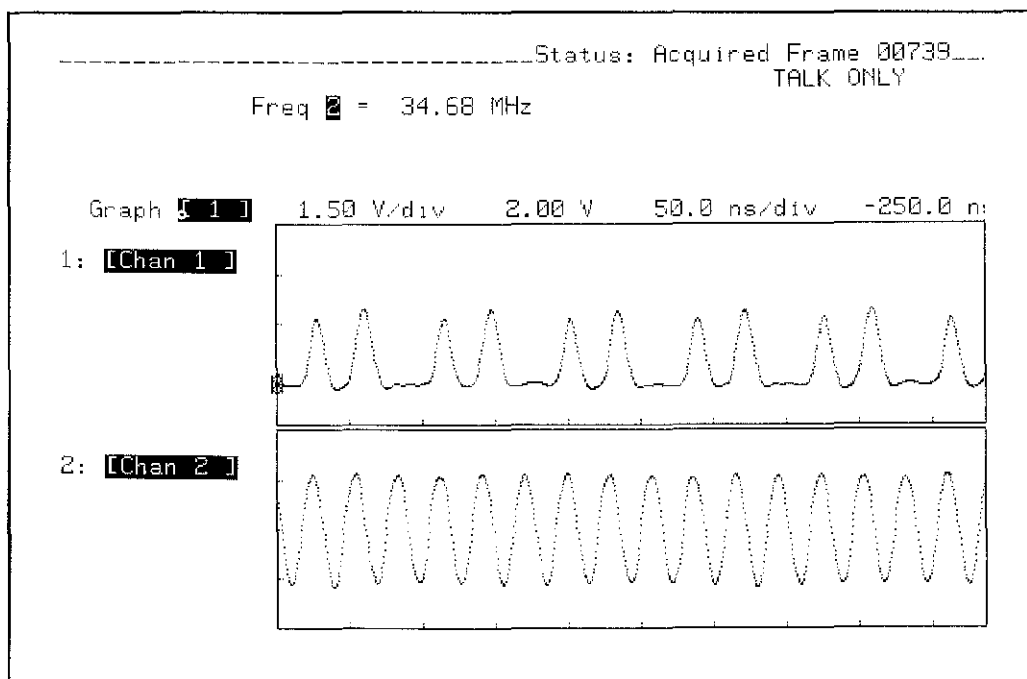

Figure 3-38. Clock Repetition Rate Test Waveforms
11. While observing the pulses displayed on Channel 1, decrement the pulse generator period in 1 ns steps until the Channel 1 waveform begins to drop pulses as shown in figure 3-38.